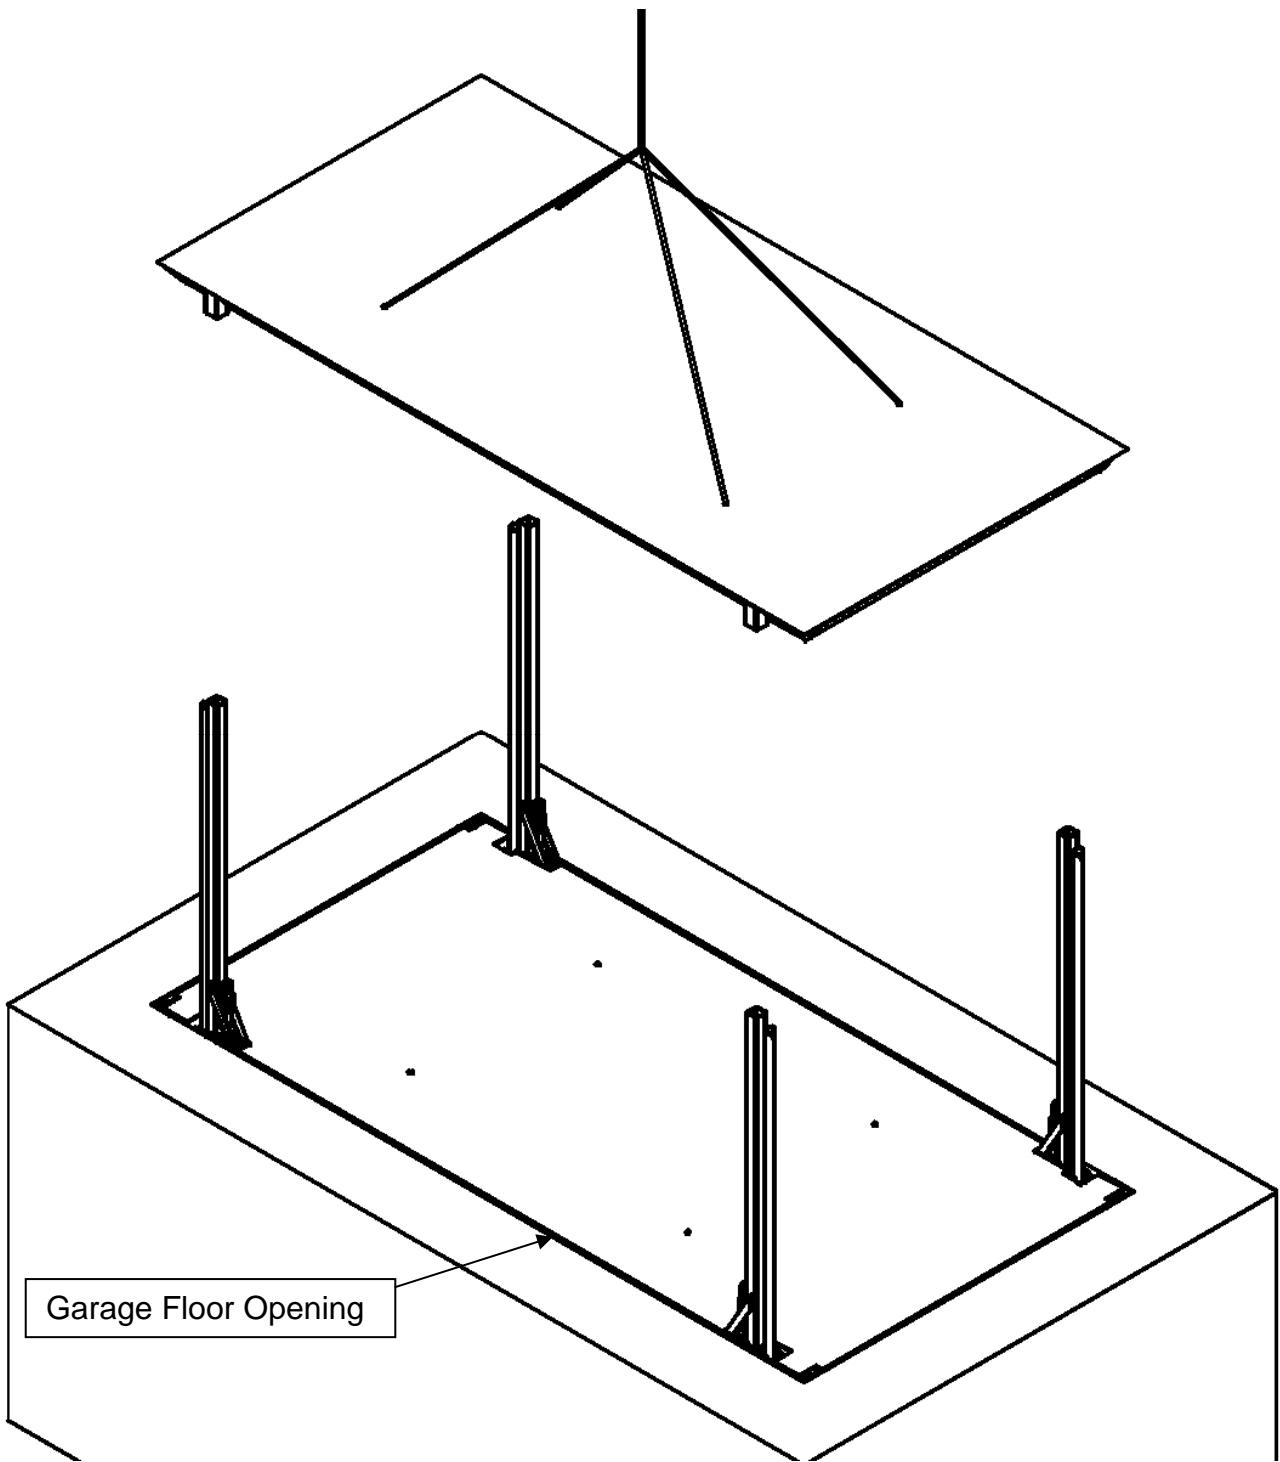

Figure 17 Canopy Assembly
F. ATTACHING THE CANOPY DECK (Reference Figures 17 & 18)
1. Using nylon straps / hooks and lifting eye provisions in the deck surface, raise the upper/canopy over the four (4) canopy posts, sliding the square collars located beneath the deck over and onto the four posts. Make sure that the deck orientation (location of access hatch – if applicable) matches the GA Drawing and that all four posts are engaged into the platform collars.
3. With the carriage leveled and in the fully lowered position, use the overhead hoist or crane to lift and adjust the slope of the top canopy to be flush with, and match the grade of, the surrounding garage/parking floor (reference **Figure 17**). Weld per General Arrangement drawing once complete.